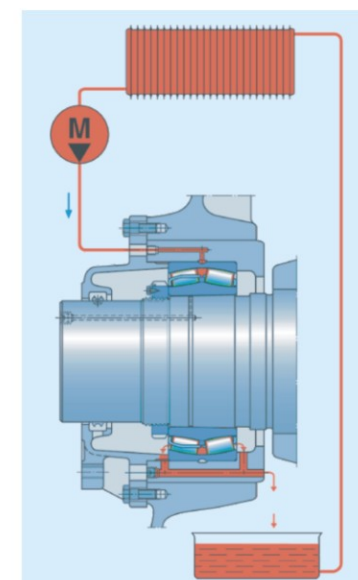

Fig 8-3 : oil circulation lubrication
- Oil circulation lubrication: This method circulates lubrication within the bearings. (Fig 8-3)